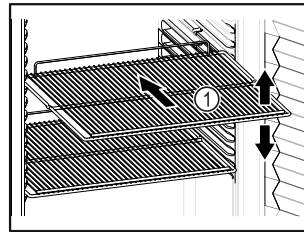

Fig. 62 Example illustration
- ❑ If storage surfaces Fig. 62 (1) are movable, adjust them according to height.